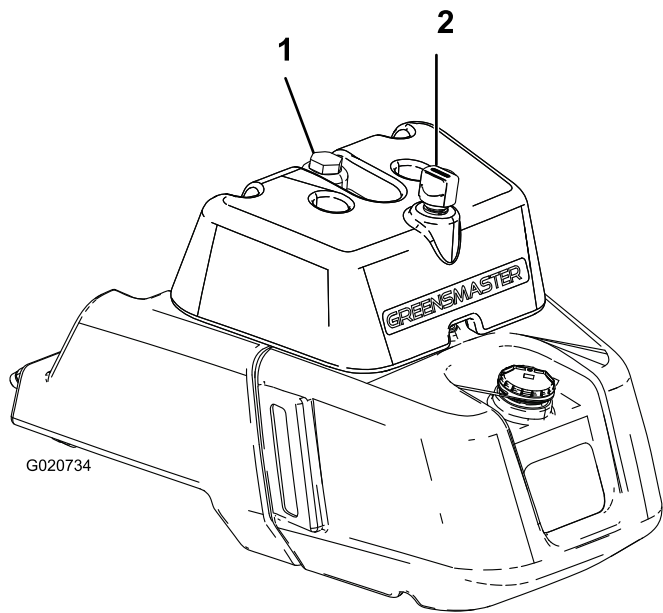

Figure 23
2. Remove the cap from the reservoir (Figure 23).